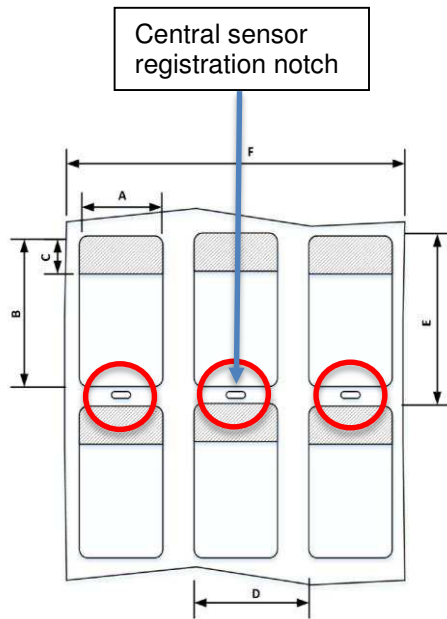
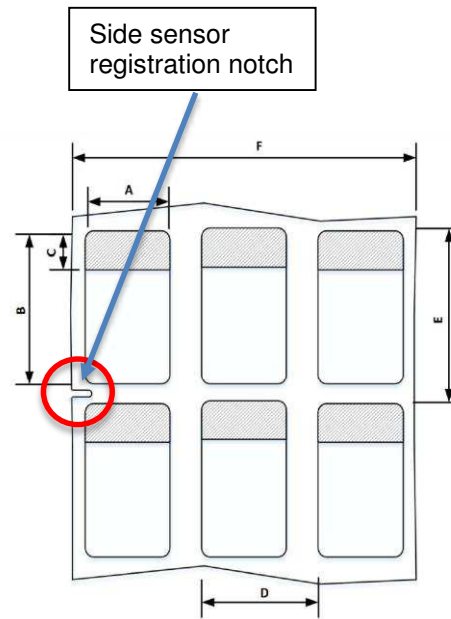

Figure 1, three sensor registration notches
Figure 2, side sensor registration notch
Printer labels sensor require a datum to start measurements from, figures 1 and 2 show two examples of cut out sensor registration notches.
The central sensor registration notch shown in Figure 1, can be used for printers equipped with a fixed central label sensor, and printers equipped with a movable label sensor.
TE printer models T208M or T212M have a fixed central label sensor so it is necessary to print labels with only central sensor registration notches (example shown in Figure 1)
The current range of TE printers (T200-Ident, TE3112, TE3124 and T312Mi) are equipped with movable label sensor so can be adjusted to both examples of sensor registration notches shown in Figures 1 & 2. Moveable printer sensor adjustment guidance is given in section 2.
1. Turn lever (12) counterclockwise to lift the printhead.
2. Move guides (8) apart with the knob (11) until the media can pass between them.
3. Push media strip below the guide roller (7) between the guides (8).
4. Guide media strip through the label sensor (9) in such a way that it leaves the print mechanics (6, fig 1) between printhead (10, fig 2) and the print roller (11, fig 2).
5. Move guides (8) against the edges of the material by turning the knob (11).